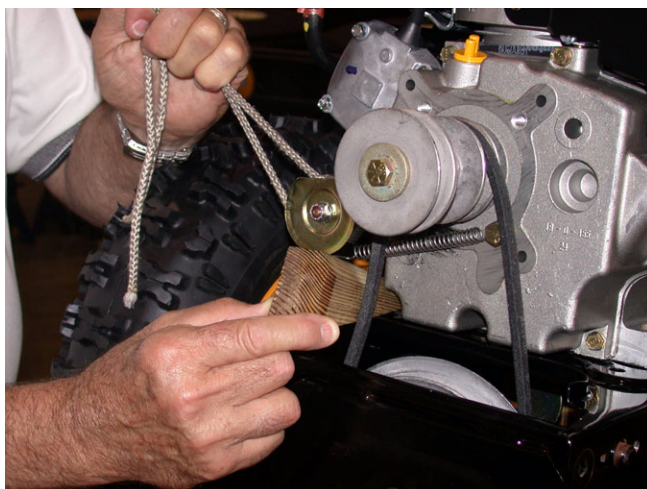

Figure 41
- 15.3. Using a piece of starter cord, pull the drive clutch idler bracket away from the belt and block it with a piece of wood. See Figure 41.